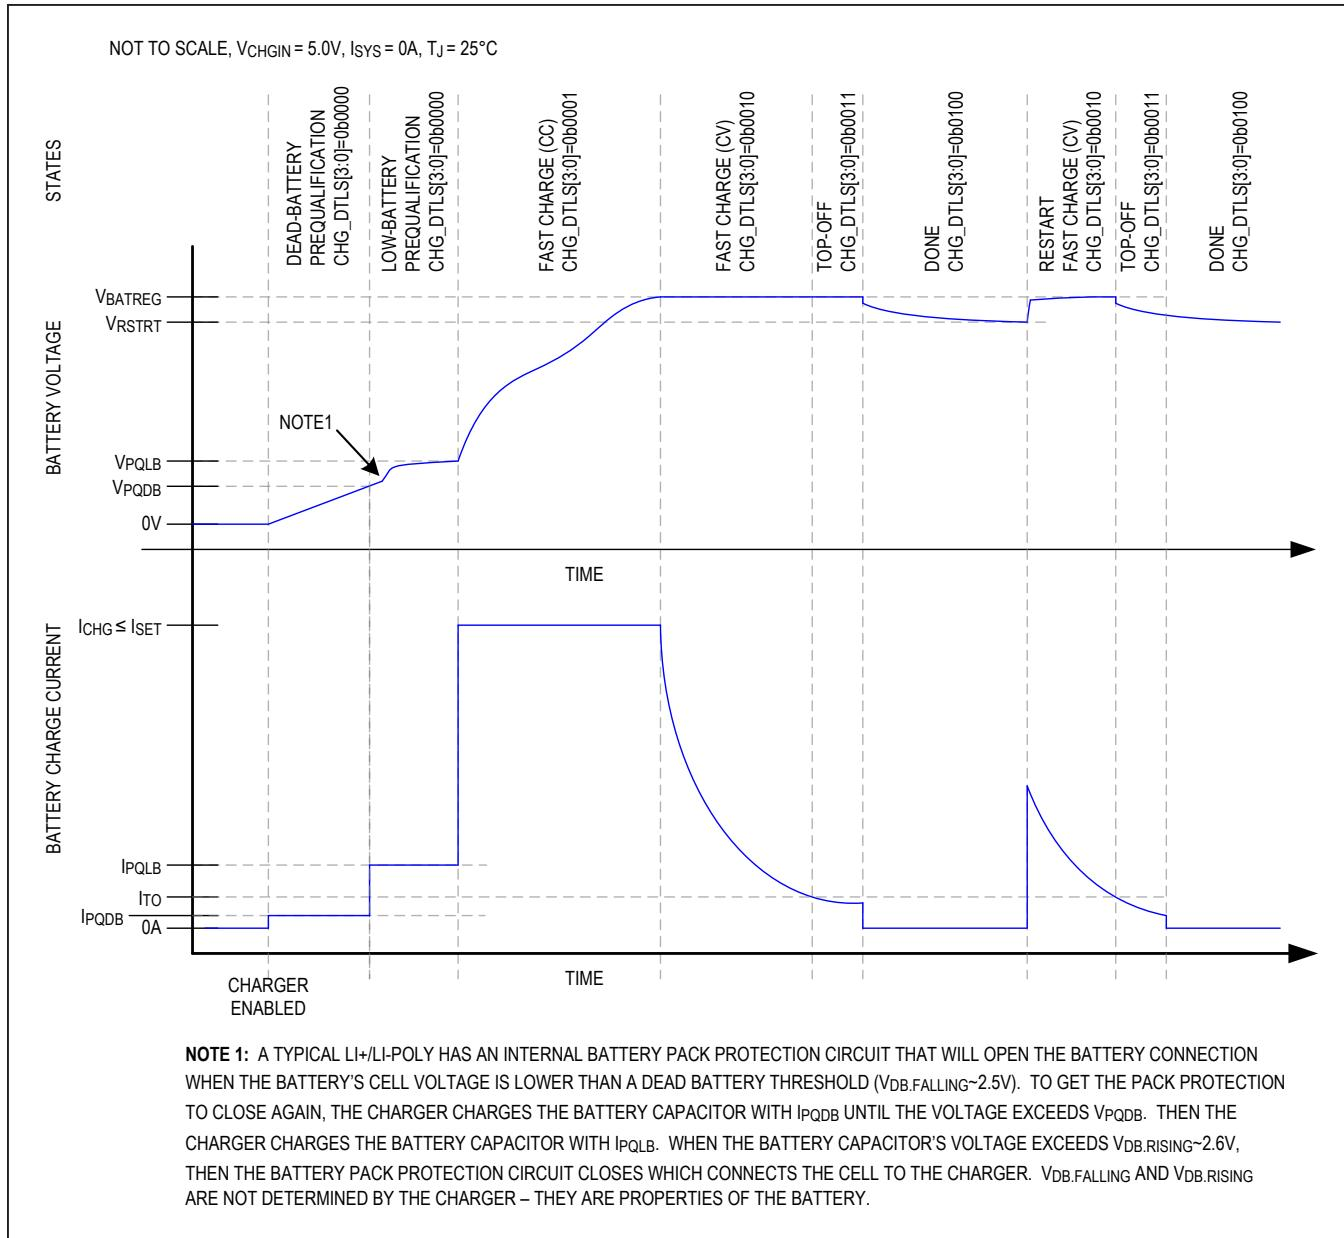
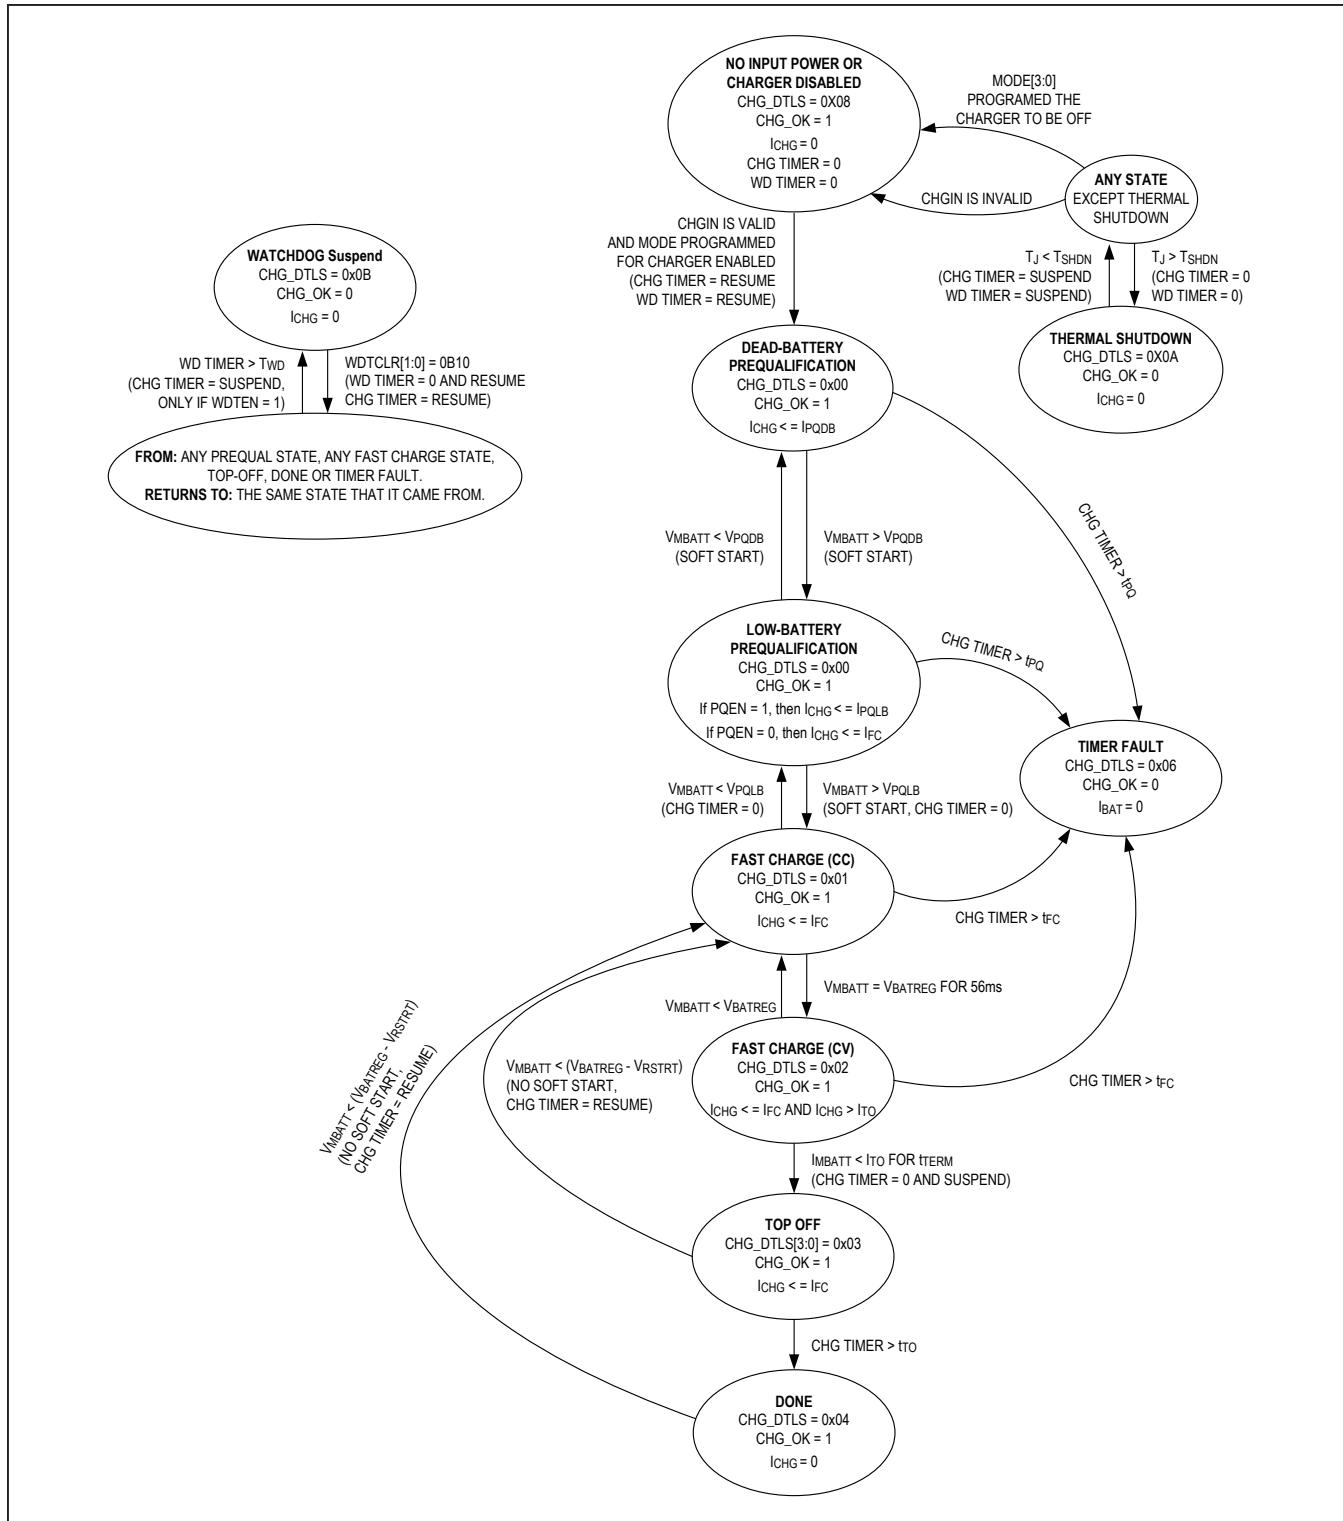

Figure 6. Li+/Li-Poly Charge Profile
Figure 7. Charger State Diagram
The MAX77818 utilizes several charging states to safely and quickly charge batteries as shown in Figure 6 and Figure 7. Figure 6 shows an exaggerated view of a Li+/Li-Poly battery progressing through the following charge states when there is not system load and the die and battery are close to room temperature: prequalification → fast-charge → top-off → done.
From any state shown in Figure 7 except thermal shutdown, the no input power or charger disabled state is entered whenever the charger is programmed to be off or the charger input CHGIN is invalid. After being in this state for  $t_{SCIDG}$ , a CHG\_I interrupt is generated, CHG\_OK is set and CHG\_DTLS is set to 0x08.
As shown in Figure 7, the dead battery prequalification state occurs when the main battery voltage is less than  $V_{PQDB}$ . After being in this state for  $t_{SCIDG}$ , a CHG\_I interrupt is generated, CHG\_OK is set and CHG\_DTLS is set to 0x00. In the dead battery prequalification state charge current into the battery is  $I_{PQDB}$ .
As shown in Figure 7, the fast-charge constant current (CC) state occurs when the main battery voltage is greater than the low battery prequalification threshold and less than the battery regulation threshold ( $V_{PQLB} < V_{BATT} < V_{BATREG}$ ). After being in the fast-charge CC state for  $t_{SCIDG}$ , a CHG\_I interrupt is generated, CHG\_OK is set and CHG\_DTLS = 0x01.
As shown in Figure 7, the fast-charge constant voltage (CV) state occurs when the battery voltage rises to  $V_{BATREG}$  from the fast-charge CC state. After being in the fast-charge CV state for  $t_{SCIDG}$ , a CHG\_I interrupt is generated, CHG\_OK is set and CHG\_DTLS = 0x02.
In the fast-charge CV state the battery charger maintains  $V_{BATREG}$  across the battery and the charge current is less than or equal to  $I_{FC}$ . As shown in Figure 6, charger current decreases exponentially in this state as the battery becomes fully charged.
As shown in Figure 7, the top-off state can only be entered from the fast-charge CV state when the charger current decreases below  $I_{TO}$  for  $t_{TERM}$ . After being in the top-off state for  $t_{SCIDG}$ , a CHG\_I interrupt is generated, CHG\_OK is set and CHG\_DTLS = 0x03. In the top-off state the battery charger tries to maintain  $V_{BATREG}$  across the battery and typically the charge current is less than or equal to  $I_{TO}$ .
As shown in Figure 7, the battery charger enters its done state after the charger has been in the top-off state for  $t_{TO}$ . After being in this state for  $t_{SCIDG}$ , a CHG\_I interrupt is generated, CHG\_OK is cleared and CHG\_DTLS = 0x04.
The battery charger provides both a charge timer and a watchdog timer to ensure safe charging. As shown in Figure 7, the charge timer prevents the battery from charging indefinitely. The time that the charger is allowed to remain in its each of its prequalification states is  $t_{PQ}$ . The time that the charger is allowed to remain in the fast-charge CC and CV states is  $t_{FC}$  which is programmable with FCHGTIME. Finally, the time that the charger is in the top-off state is  $t_{TO}$ , which is programmable with TO\_TIME. Upon entering the timer fault state a CHG\_I interrupt is generated without a delay, CHG\_OK is cleared and CHG\_DTLS = 0x06.
In the timer fault state the charger is off. The charger can exit the timer fault state by programming the charger to be off and then programming it to be on again through the MODE bits. Alternatively, the charger input can be removed and reinserted to exit the timer fault state. See the any state bubble in the upper right of Figure 7.
The battery charger provides both a charge timer and a watchdog timer to ensure safe charging. As shown in Figure 7, the watchdog timer protects the battery from charging indefinitely in the event that the host hangs or otherwise cannot communicate correctly. The watchdog timer is disabled by default with WDTEN = 0. To use
As shown in Figure 7, the thermal shutdown state occurs when the battery charger is in any state and the junction temperature ( $T_J$ ) exceeds the device's thermal shutdown threshold ( $T_{SHDN}$ ). When  $T_J$  is close to  $T_{SHDN}$ , the charger has folded back the input current limit to 0A so the charger and inputs are effectively off. Upon entering this state, CHG\_I interrupt is generated without a delay, CHG\_OK is cleared, and CHG\_DTLS = 0x0A.